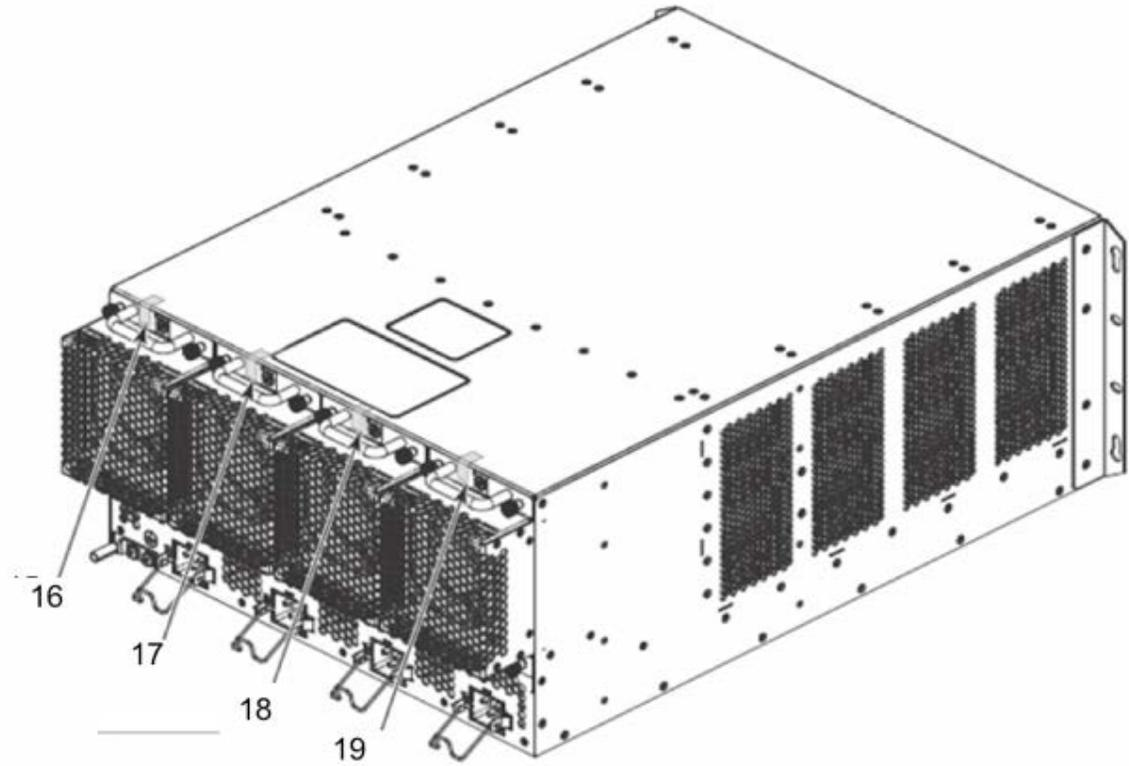

Figure 19 - Rear view of Brocade MLXe-4 device with security seals
- Rear: Four (4) seals are required to complete the physical security requirements. Affix one seal at each designated location. Each seal is applied from the top panel of the chassis to the flange of each of the four fan FRUs. You must bend each seal to place them correctly. See Figure 19 for correct seal orientation and positioning.